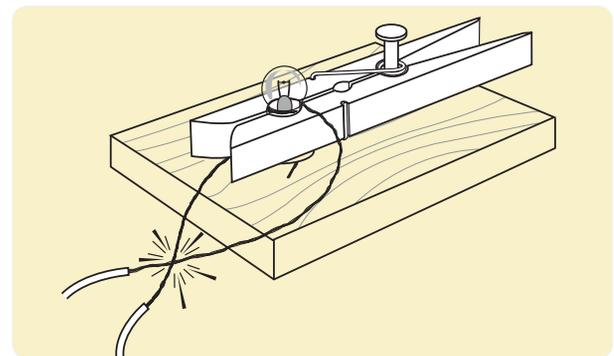

Figure 8.28 Bare wires can be shorted.
- 4 Check if any connecting wires are touching—this is called a short circuit. A short circuit happens when connecting wires touch in the wrong place (see Figure 8.28). The electricity does not pass through the component.